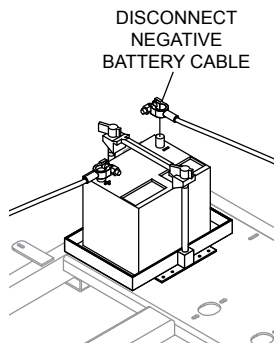

Figure 3. Disconnecting Battery
1. For LT12D light towers, disconnect the negative cable (black) from battery. See Figure 3. For MLT series light towers, remove power cable from power source.